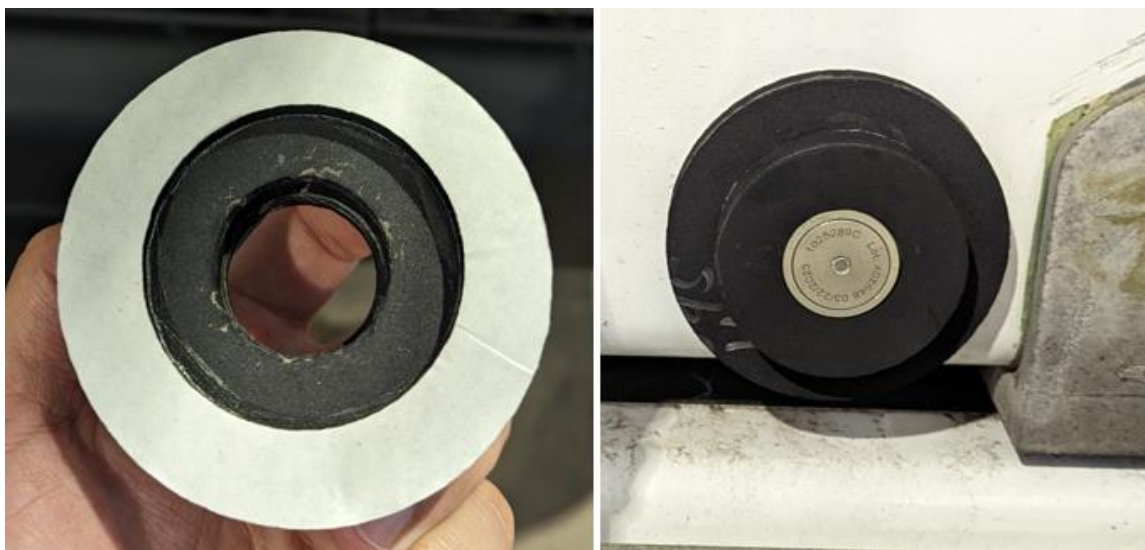

Figure 3: Remove White Backing (L) and Adhere Foam Puck to the ESS Port and Drain Assembly (R) – Repeat for all Drains.
- A complete ESS enclosure will contain four drains. Carefully peel the white backing off of the insulation and apply a pre-formed foam puck (PN 1040861) over the ESS port and drain assembly. Repeat for all ESS drains on vehicle. Reference Figure 3 below for an installed foam-puck.